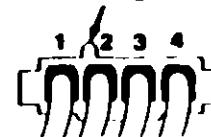

Figure 3. Diskette Drive and Fixed Disk Drive Voltages
- Check the diskette drive and fixed disk drive power connectors for the correct voltages (see Figure 3)